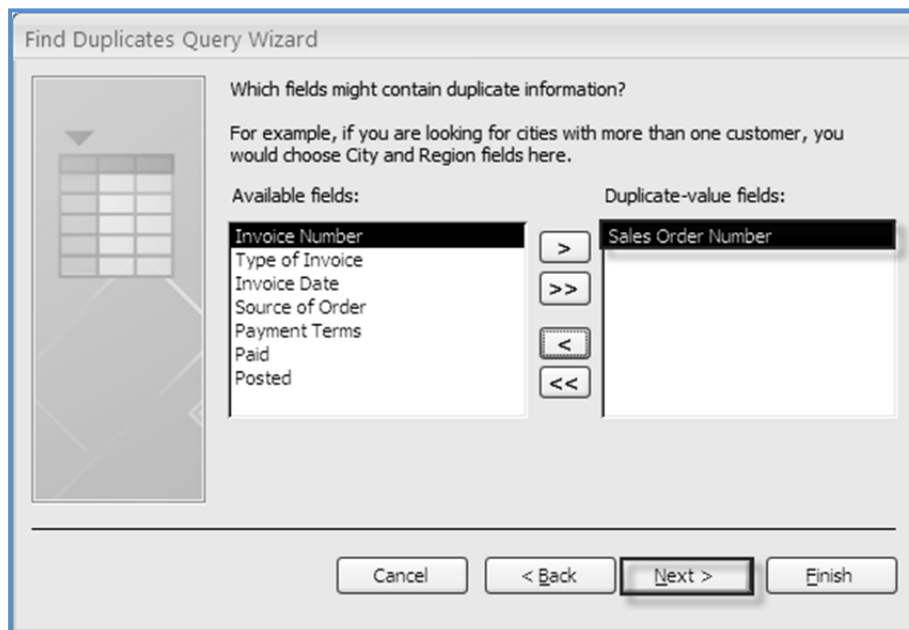

Fig. 1.2.22: Select the column for Duplicate values
4. Select the column on the basis of which the duplicate records need to be matched and click **Next**. In this scenario, select **Sales Order Number** as shown in Fig. 1.2.22. Click **Next**.